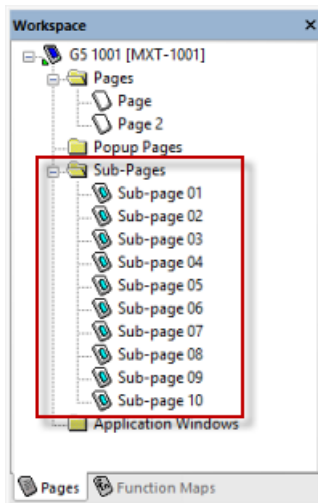

FIG. 107 Workspace window - Sub-pages 01 - 10 added to the project
- Repeat steps 1 - 5 to create additional Sub-Pages, named "Sub-Page 02" - "Sub-Page 10" (FIG. 107):